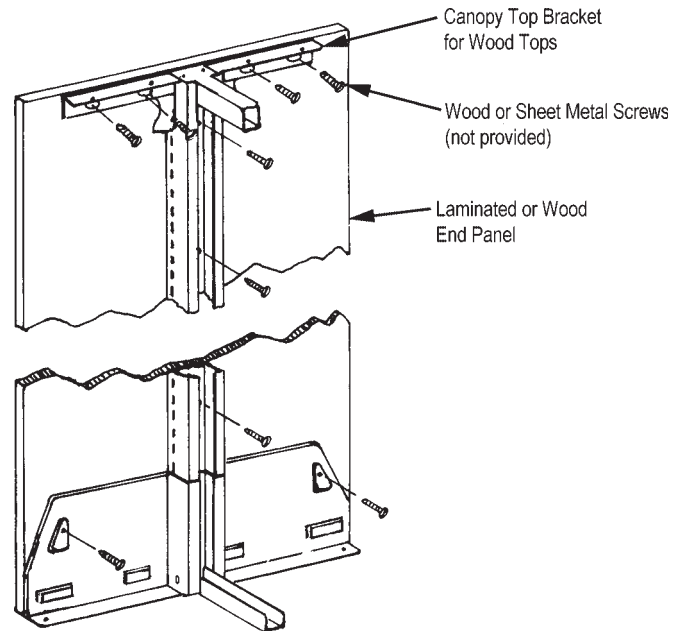

FIGURE 36
1. Stand end panel against welded frame and center over frame upright. Using holes in web of frame, attach wood panel to frame with wood or sheet metals screws. Screws not provided. See Figure 36.
3. Attach panel at bottom through holes provided in depression of base bracket. Screws not provided. See Figure 36.